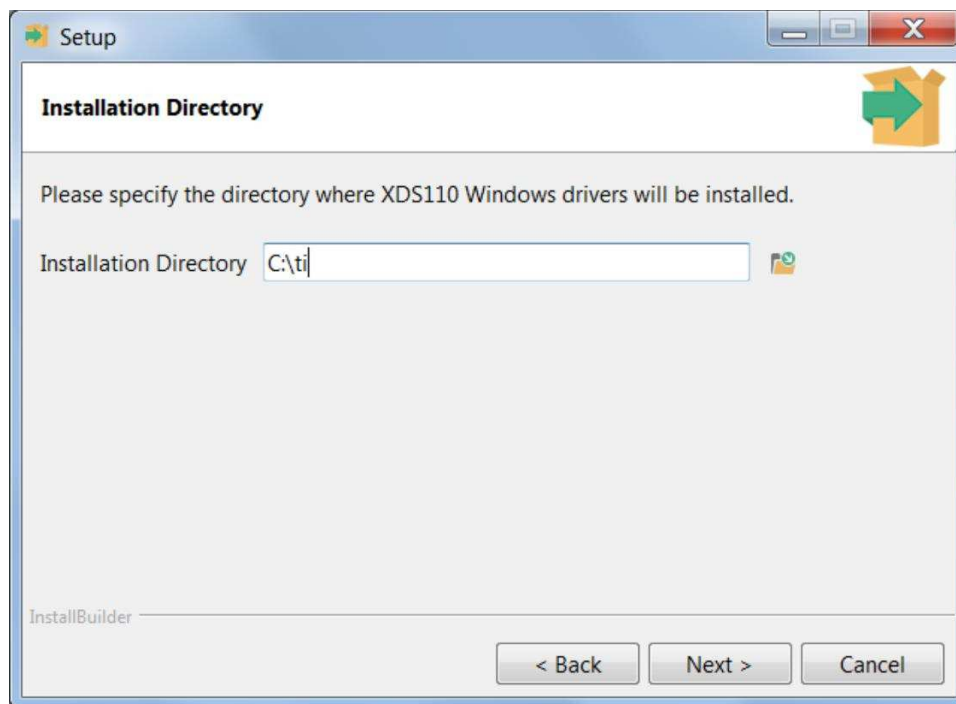

Figure 2-9. Select Install Path
3. Specify the installation path in the Installation Directory field, as shown in Figure 2-9 (default is c:\ti\), and proceed with the installation.